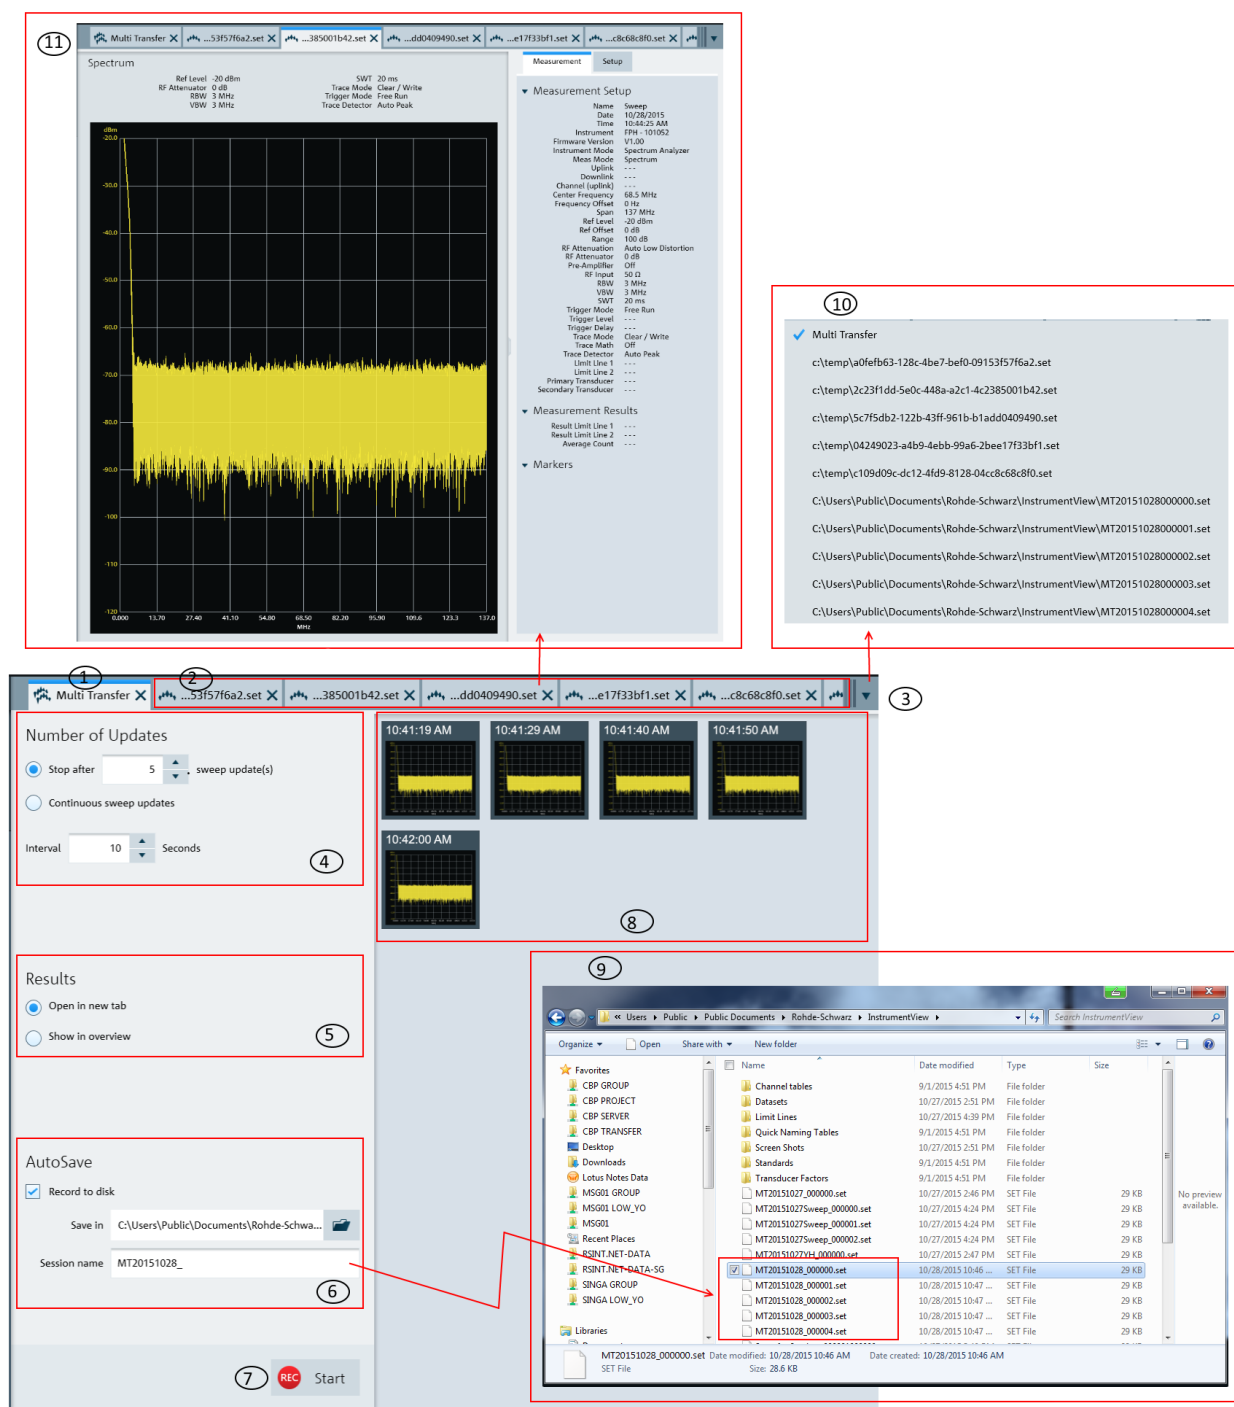

Figure 5-11: Multi-transfer dialog
"View" 	Views the details of the trace measurement file. For viewing, see Chapter 4.3, "Save Instrument" , on page 24 for a list of file format supported. When a file is selected to be viewed, a tab is displayed in the header bar of the screen layout. See index 11 of Figure 5-11 .
The "Multi Transfer" menu allows you to capture and save trace measurements from the instrument. See Figure 5-11.
- 2 = Measurement results tab (see index 11 in Figure 5-11)
- The trace measurement in the overview area. See index 8 in Figure 5-11.
- The individual trace measurement result in the "Tab header bar". See index 2 in Figure 5-11.
See index 11 in Figure 5-11.
See index 9 in Figure 5-11 to view the trace measurements captured in the file directory.
Depending on the setting in the "Results" section (see index 5 in Figure 5-11), the trace measurement updates can be displayed in the overview area (see index 8 in Figure 5-11) or individually displayed as a new tab in the tab header bar (see index 2 in Figure 5-11).